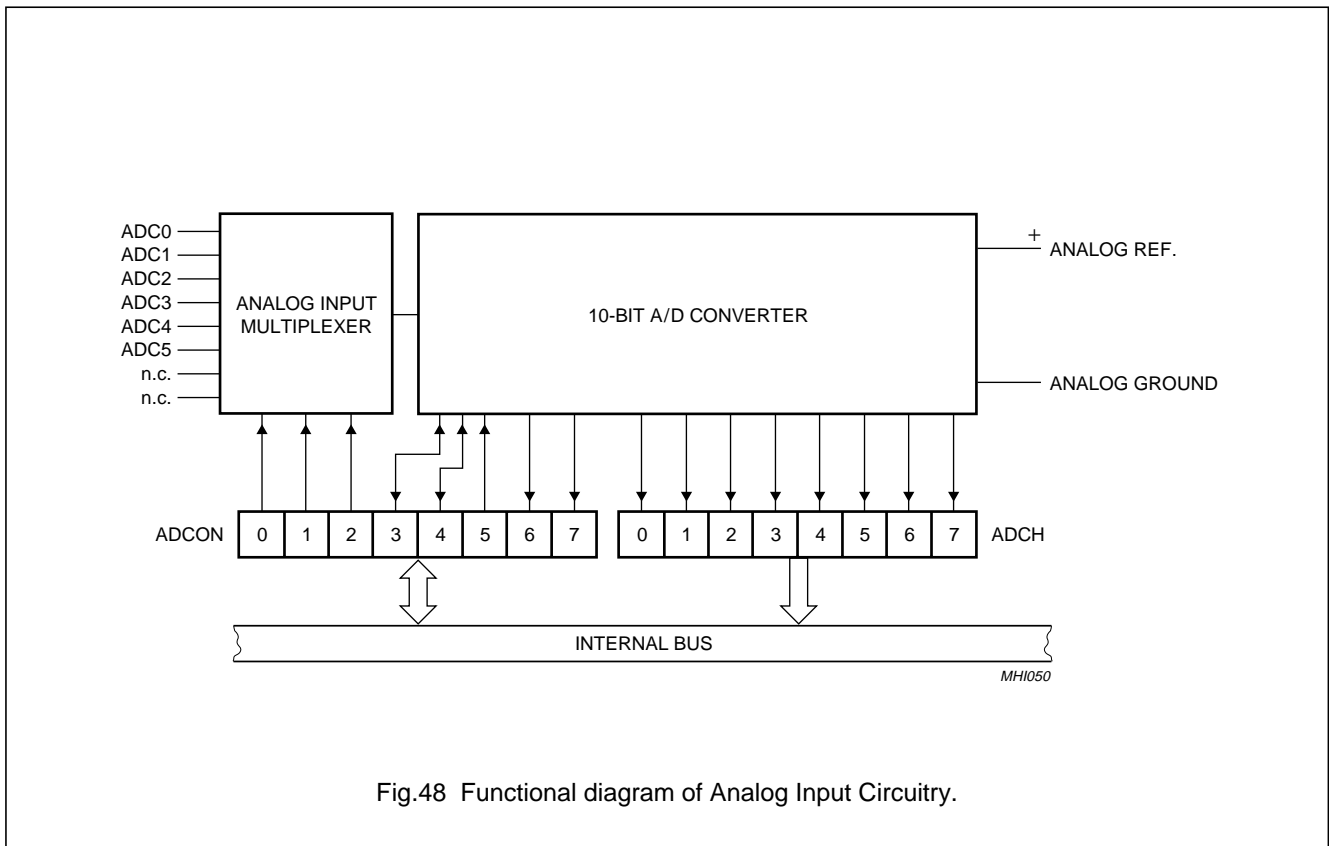

Fig.48 Functional diagram of Analog Input Circuitry.
The analog input circuitry consists of an 6-input analog multiplexer and a 10-bit, straight binary, successive approximation ADC. The A/D can also be operated in 8-bit mode with faster conversion times by setting bit ADC8 (AUXR1.7). The 8-bit result will be contained in the ADCH register. The analog reference voltage and analog power supplies are connected via separate input pins. For 10-bit accuracy, the conversion takes 50 machine cycles, i.e., 25 μ s at an oscillator frequency of 12 MHz. For the 8-bit mode, the conversion takes 24 machine cycles. Input voltage swing is from 0 V to +5 V. Because the internal DAC employs a ratiometric potentiometer, there are no discontinuities in the converter characteristic. Figure 48 shows a functional diagram of the analog input circuitry.
Figure 48 shows the elements of a successive approximation (SA) ADC. The ADC contains a DAC which converts of a successive approximation register to a voltage (VDAC) which is compared to the analog input voltage (V_{IN}). The output of the comparator is fed to the successive approximation control logic which controls the successive approximation register. A conversion is initiated by setting ADCS in ADCON register. ADCS can be set by software only.
otherwise the bit being tested is cleared. This process is repeated until all ten bits have been tested, at which stage the result of the conversion is held in the successive approximation register. Figure 48 shows a conversion flow chart. The bit pointer identifies the bit under test. The conversion takes four machine cycles per bit.
Figure 48 shows how the ADC is realized. The ADC has its own analog ground (AV_{SS}) and a positive analog reference pin (V_{ref+}) connected to each end of the DAC's resistance-ladder. The ladder has 1023 equally spaced taps, separated by a resistance of "R". The first tap is located $0.5 \times R$ above AV_{SS} , and the last tap is located $1.5 \times R$ below V_{ref+} . This gives a total ladder resistance of $1024 \times R$. This structure ensures that the DAC is monotonic and results in a symmetrical quantization error is shown in Figure 48.